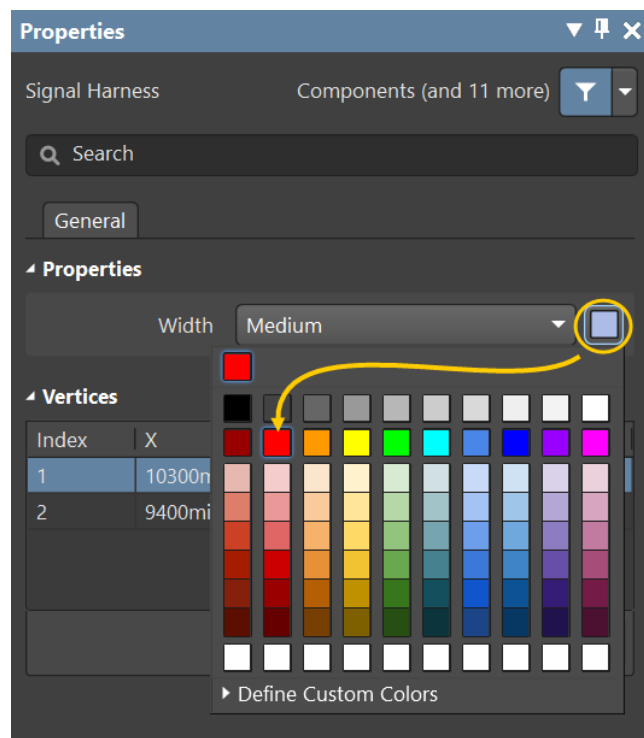

Figure 24. New Harness Color
61. Change the color to red, as shown in Figure 24.